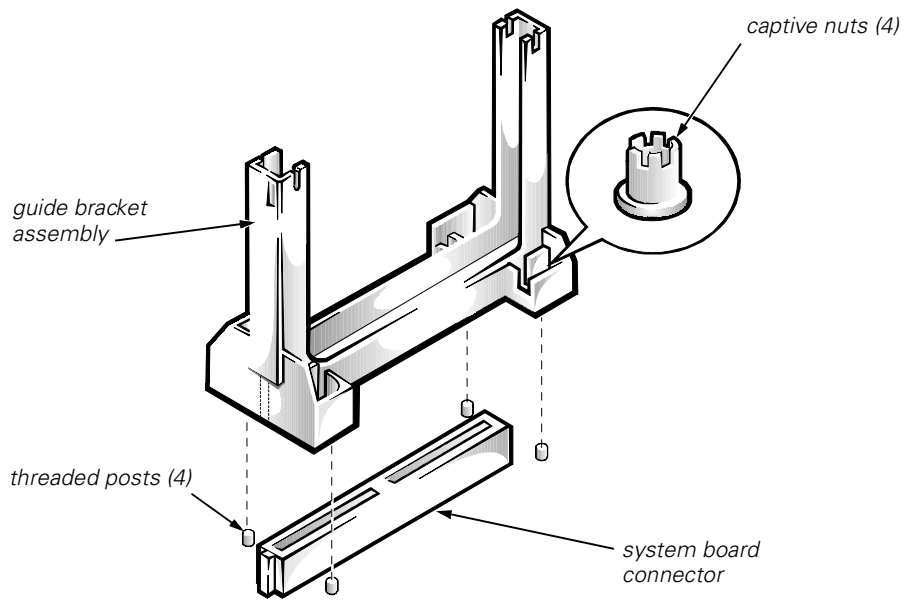

Figure 1-7. Removing the Old Guide Bracket Assembly
3. Use a #2 Phillips screwdriver to loosen the four captive nuts that secure the guide bracket assembly to the system board (see Figure 1-7).